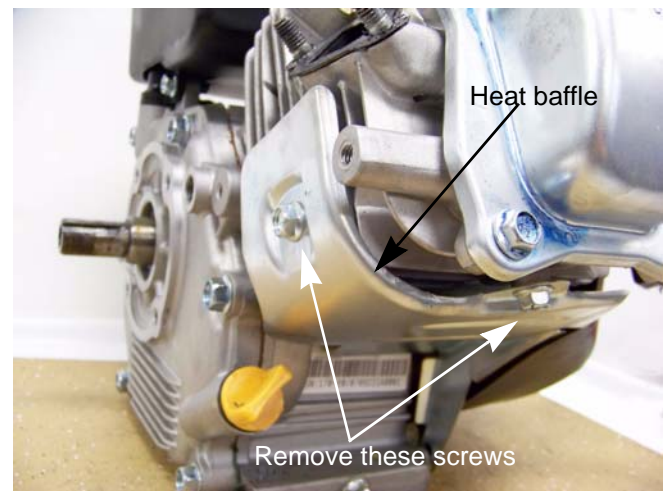

Figure 9.3
8. Remove the heat baffle. See Figure 9.3.